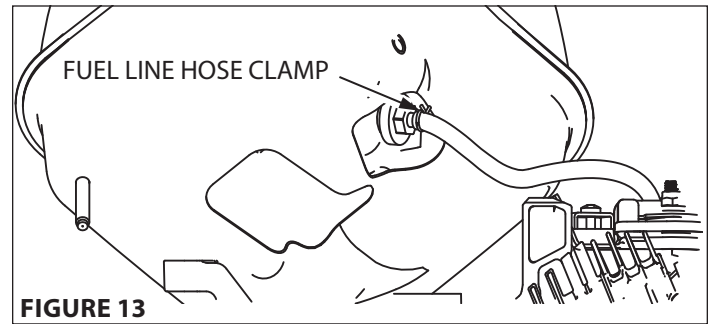

FIGURE 13
6. Gently lift tank off of the engine and disconnect the hose clamp. **SEE FIGURES 13 and 14**